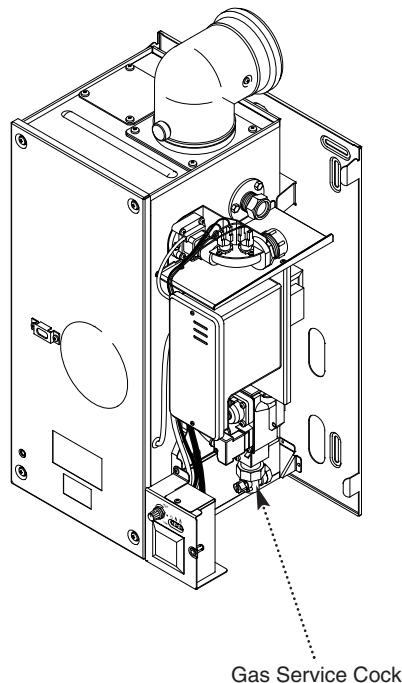

Fig. 15
2. The connection to the appliance is a 1/2in BSPT internal threaded connection located at the rear of the gas service cock (Fig. 15).